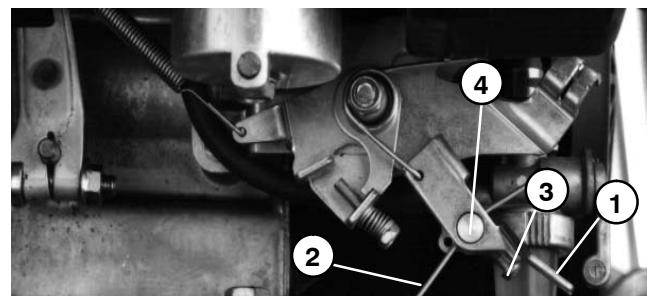

Figure 14
- A. Loosen screw on governor lever enough to slide the throttle cable out of the nut (Fig. 14).